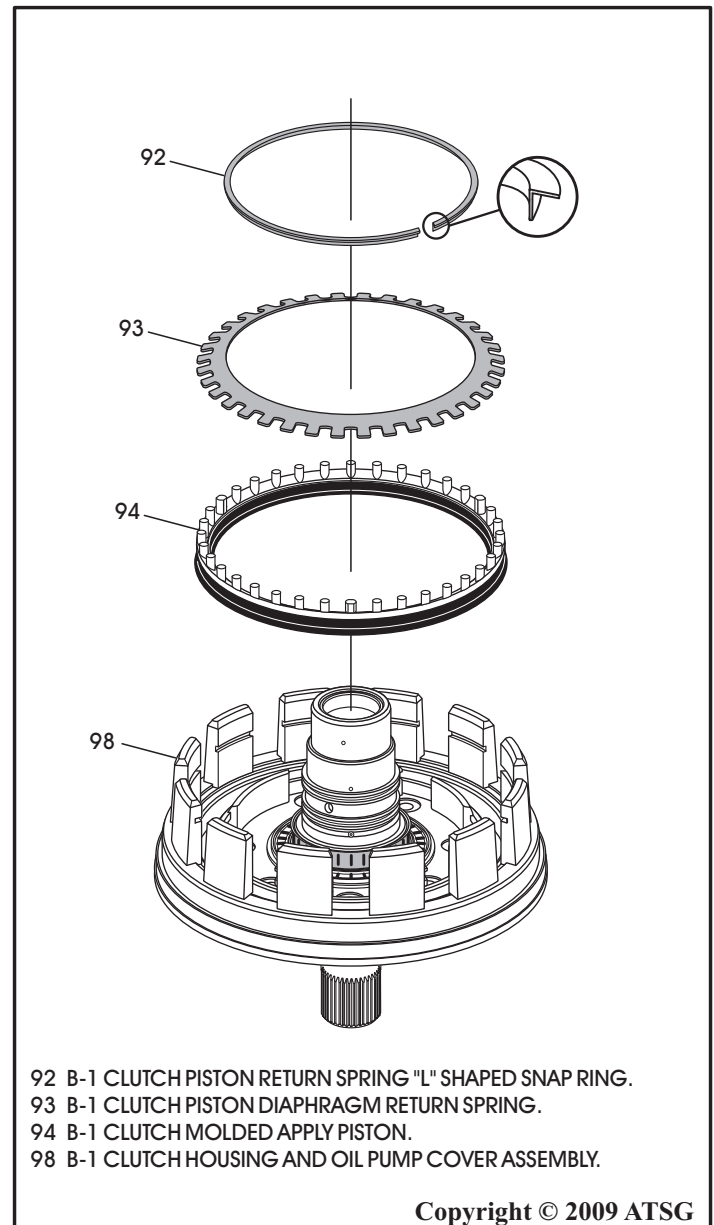

Figure 72
26. Install the B-1 clutch apply piston, as shown in Figure 72.
27. Install the B-1 clutch return spring, as shown in Figure 72.
28. Compress the return spring using a foot press and install the "L" shaped snap ring, as shown in Figure 72.